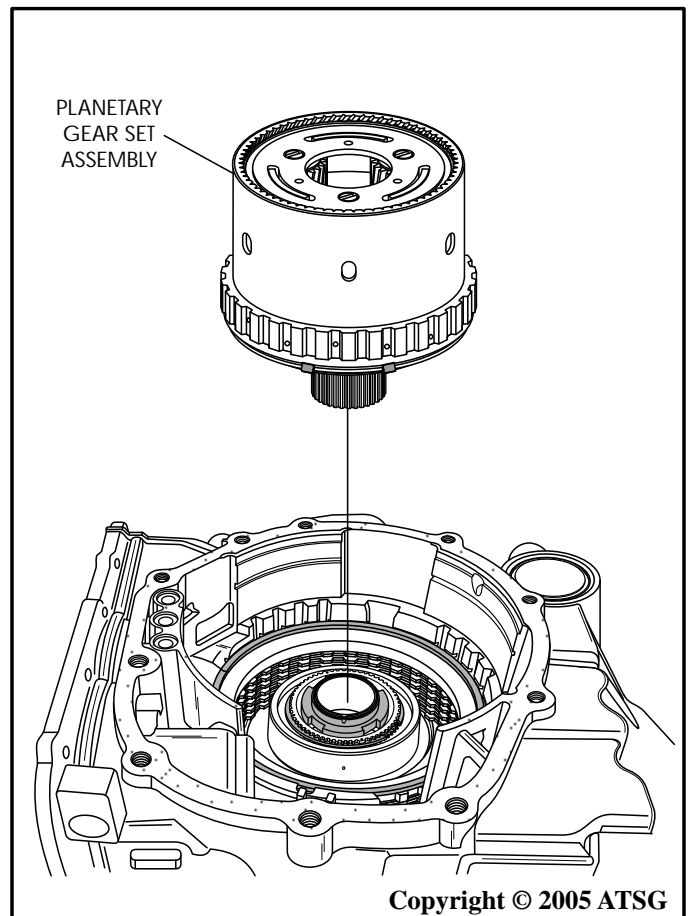

Figure 49
50. Remove the planetary gear set and low sprag assembly from transaxle case, as shown in Figure 49.
- Note: F4A51 unit with sprag illustrated in Figure 49, sprag not used in all models.**